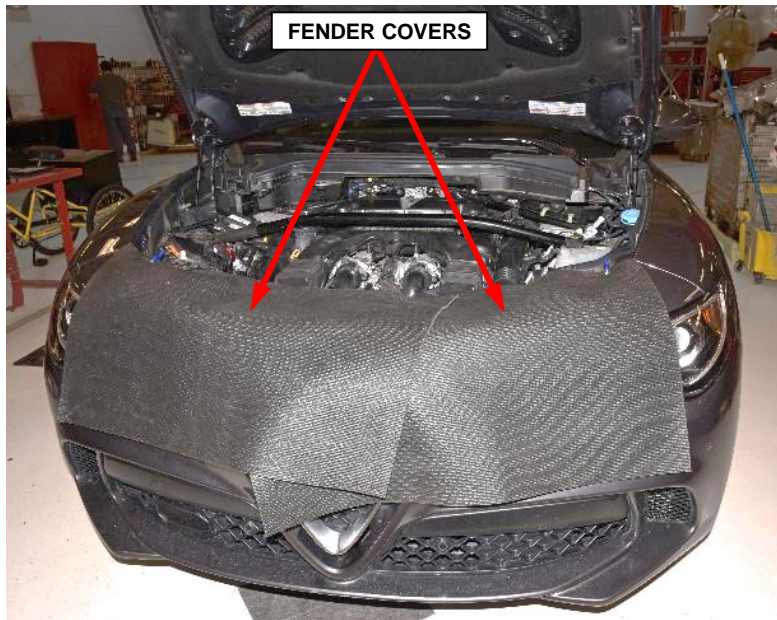

Figure 6 – Protect Painted Surfaces
23. Protect the painted surfaces of the vehicle around the engine compartment in order to prevent any damage to the vehicle paint (Figure 6).